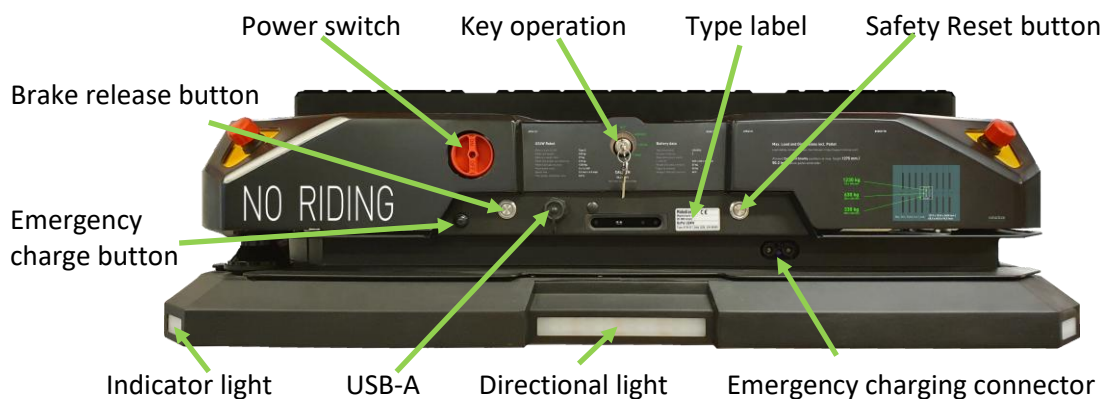
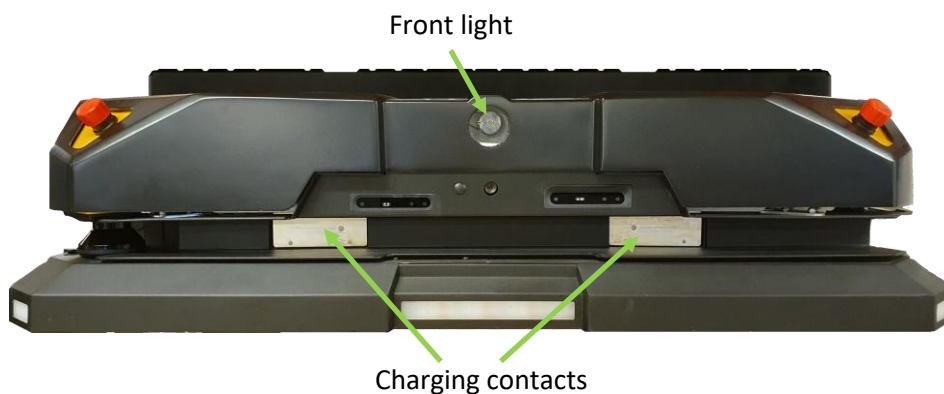

Figure 9 GoPal U24W rear view
Figure 10 GoPal U24W front view
The Safety Reset button (see *Figure 9*) is located at the rear of GoPal. If the mechanical bumper or any of the emergency stop buttons have been triggered, this button must be pressed to reset the safety system of the robot. After holding the Safety Reset button for a minimum of 1 second, GoPal will emit an audible warning signal and flash a light to indicate its active state.
The Brake Release button (see *Figure 9*) is located at the rear of GoPal. To release the robot's brakes, press this button while the key switch is in the "Emg" position. The brakes will remain released as long as the button is pressed, allowing the robot to be moved away from an object if its bumper has been engaged.
The key switch, located at the rear of the robot (see *Figure 9*) is used to control GoPal. The key switch has several positions:
The USB-A interface, located at the robot's rear (see *Figure 9*), is used for maintenance and service activities and configuration settings.
The automatic battery charging connector points are located at the front of GoPal (see *Figure 10*). These connectors are used when GoPal is docked at a Charging Station for charging. An emergency charge connector is located at the rear of GoPal (see *Figure 9*). This connector is typically not used but can be employed if an error prevents GoPal from driving into a Charging Station. The robot will not drive while emergency charging is in progress.
The Emergency Charge Button is located at the rear of the robot (see *Figure 9*). Use this button for emergency charging when the robot's battery is critically low and it is unable to charge, even when connected to charging power.
- Connect the provided DC power cable to the robot's emergency charge connector. (see *Figure 9*)
The GoPal robot is equipped with operating lights (see *Figure 9*) that function in the same way as those on a car. GoPal has white lights at the front, red braking lights at the rear, and orange corner lights that function as indicators when turning.
Additionally, GoPal has a powerful green light installed at the front (see *Figure 10*) illuminating the floor several meters in front of the robot. The purpose of this light is to alert other traffic to an approaching GoPal robot.